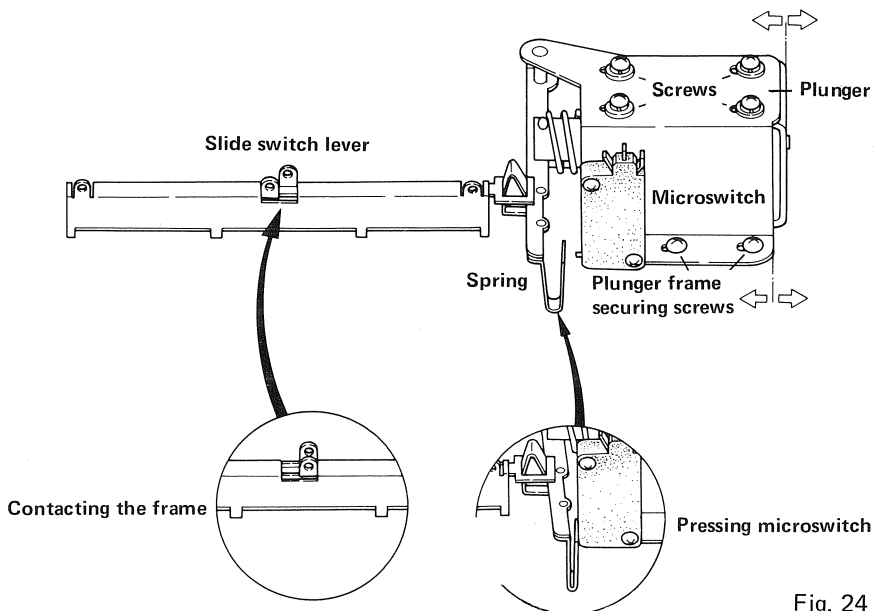

Fig. 24
1. Loosen the four screws securing the plunger (Fig. 24).